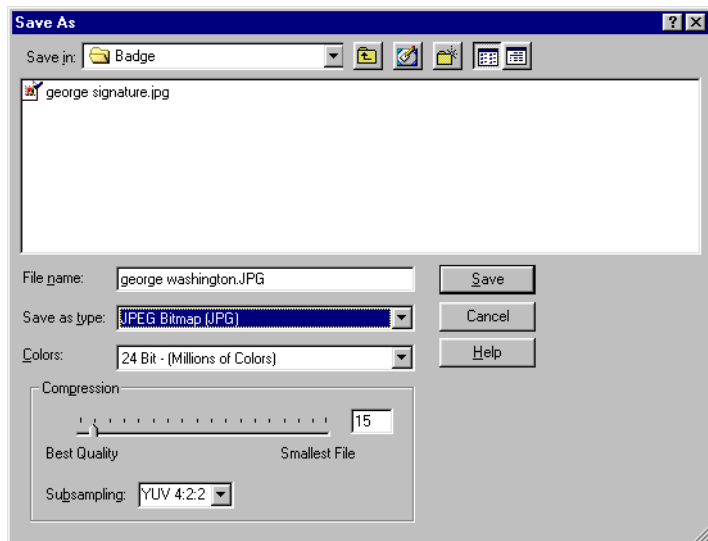

Figure 34: Export Cardholder Signature
14. If desired, the signature image can be exported to one of a variety of graphic file formats. Click the button. A file Save As window appears (see Figure 34 on page 29).